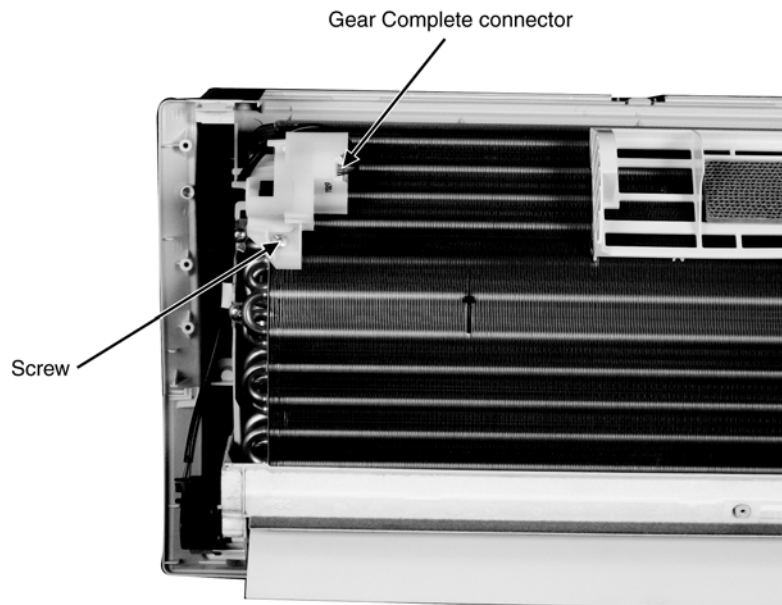

Fig. 10
3. Remove connector at the Gear Complete. (Fig.10)
4. Release screw at Gear Complete then remove the Gear Complete. (Fig.10)